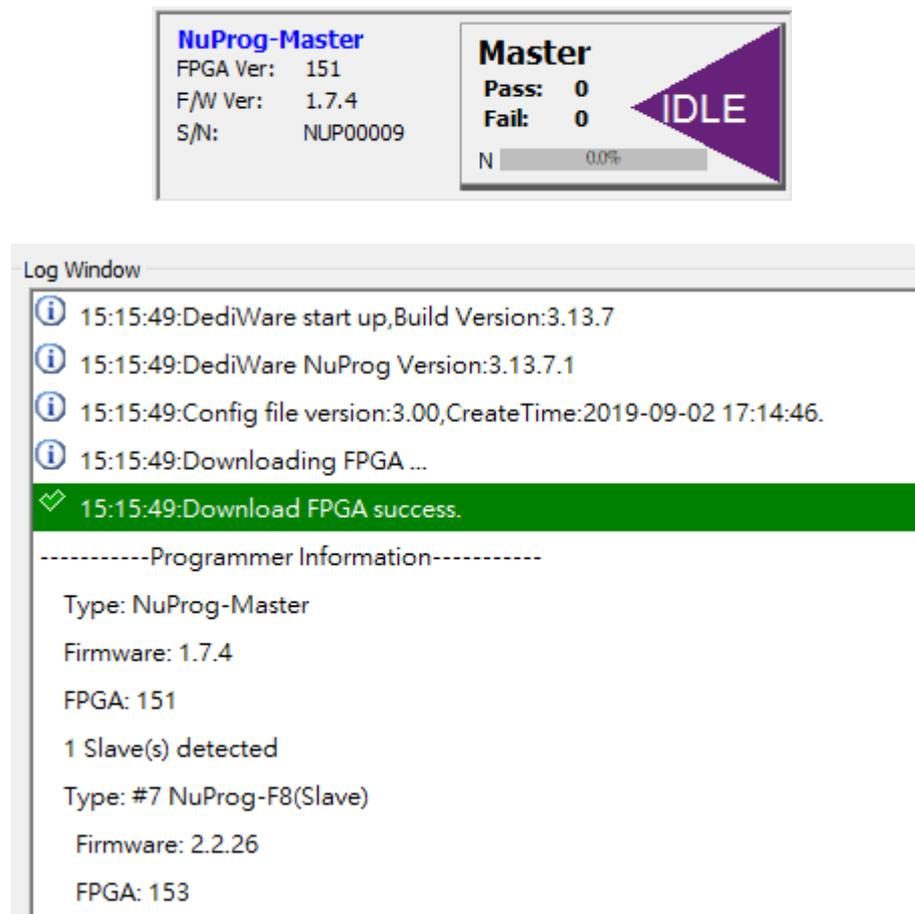

Fig. 5-8
- **Programmer Information:** It shows whether the programmer and the Dediware are connected. NuProg-F8 has master device and slave devices, but when the NuProg-F8 is connected to the PC (USB mode), it can only operate the Master Chip, since the **Copy function only works in Standalone mode**. As shown as Fig 5-8, the Firmware version of the master is 1.7.4; FPGA version is 151. The Firmware version of the slave is 2.2.26; FPGA version is 153.